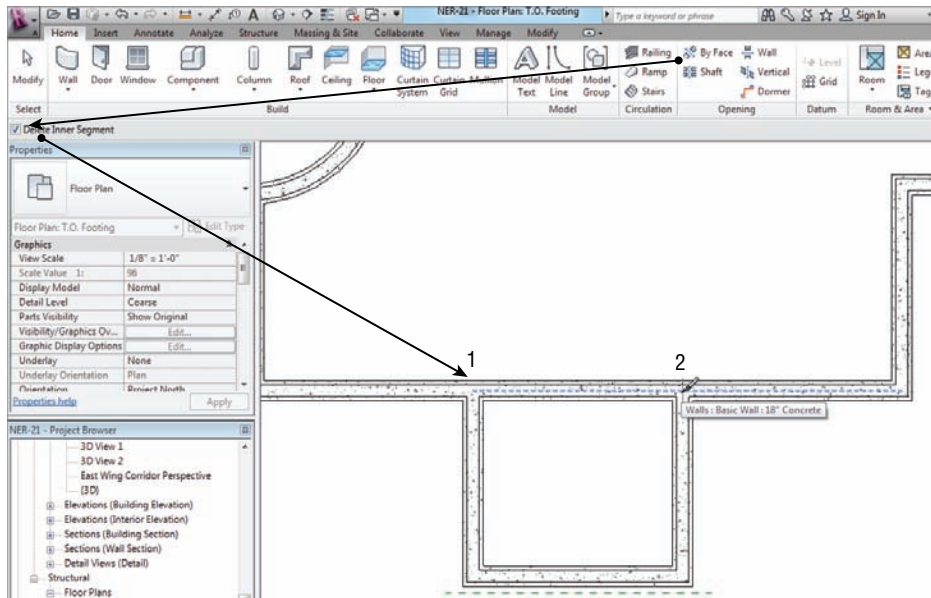

FIGURE 8.54 Splitting the foundation wall to follow the profile of the wall above
1. Zoom in on the area, as shown in Figure 8.54.
2. On the Modify tab, click the Split Element button, as shown in Figure 8.54.
3. On the Options bar, click the Delete Inner Segment check box (see Figure 8.54).
4. Pick the points labeled 1 and 2, shown in Figure 8.54.